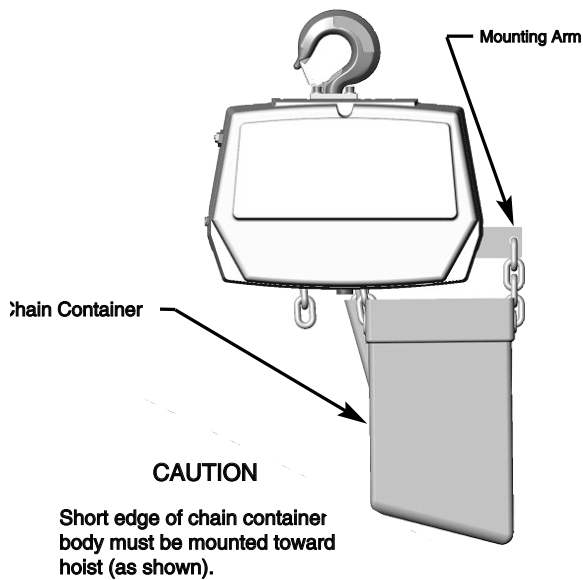

FIGURE 2-2. LUG-MOUNTED PLAIN TROLLEYS
- Slide the spring-loaded pin aside and slip the mounting arm into the slot until the pin fits through the hole in the plate (see Figure 2-2). Be sure pin passes completely through plate and into the opposite housing.